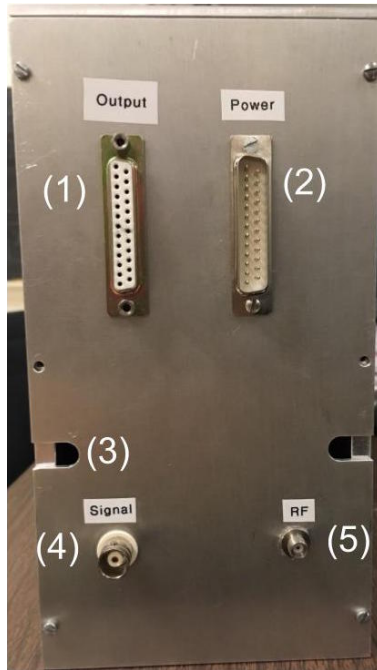
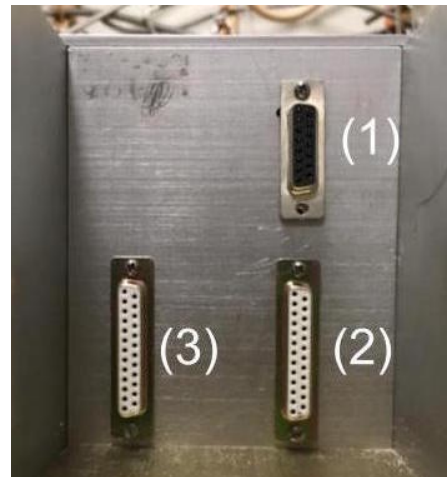
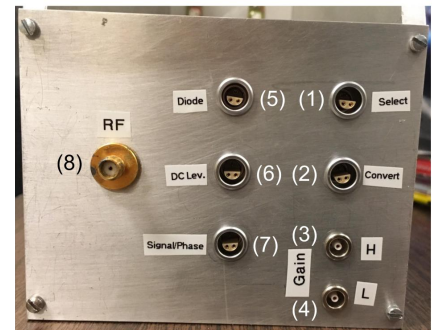

Figure 7.2: Front panel
Figure 7.3: Back panel
Figure 7.4: Middle panel
The Input/Output (IO) Interface of the box consolidates connectors (1) - (6) on the back panel (Figure 7.4) into one 25D connector on the front panel (number (1) of Figure 7.2). This includes (1) Select, (2) Convert, (3) High gain, (4) Low gain, (5) Diode, and (6) DC Level/DC Monitor. The box IO then transfers these signals to the breakout panel. The details of the wiring are given in Table 7.1 (see Ref. [8]). The signal/phase line is wired separately to reduce noise (see Section 3.2.3). The RF signal input port, number (5) in Figure 3.4, transfers the RF signal to (8) (Fig. 3.5) on the back panel. The phase signal is treated separately from the other box interfaces. The phase signal, or just the signal, is extracted from a special BNC connector on the front panel (number (4) in Figure 7.2). This is because the signal line must be shielded to reduce noise contamination. The middle panel, shown in Figure 7.3, is where the Q-meter and Yale card are connected to the box. The power input on the front panel is connected directly to (1). This 15D connector delivers power to the Yale card. The two 25D connectors (2) and (3) are wired to each other in a one-to-one manner. These connections, detailed in Tables 7.1, 7.2 and 7.3, connects the Q-meter to the Yale card.